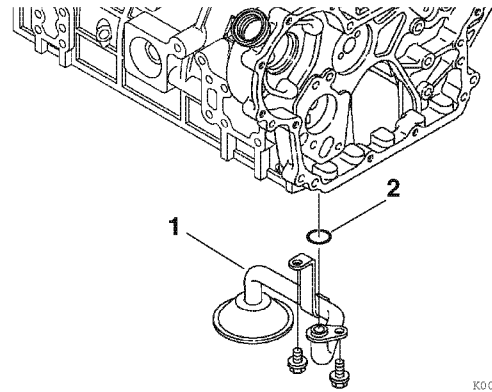

Figure 6-101
1. Reinstall the oil pickup tube (Figure 6-101, (1)) using a new O-ring (Figure 6-101, (2)).